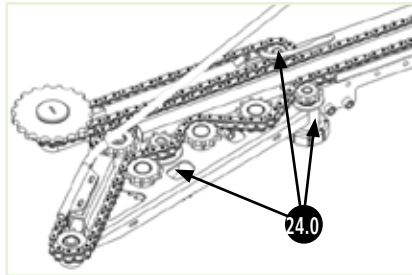

Fig. 20
Ball bearings with grease nipple 24.0 (Fig. 20) must be greased/ lubricated after commissioning, and after 30 operating hours if they are replaced! Too much grease damages the bearings as it can cause overheating. Ensure that the old grease can escape unhindered.
- Check the lubrication of all ball bearings 24.0 (Fig. 20) and relubricate if necessary